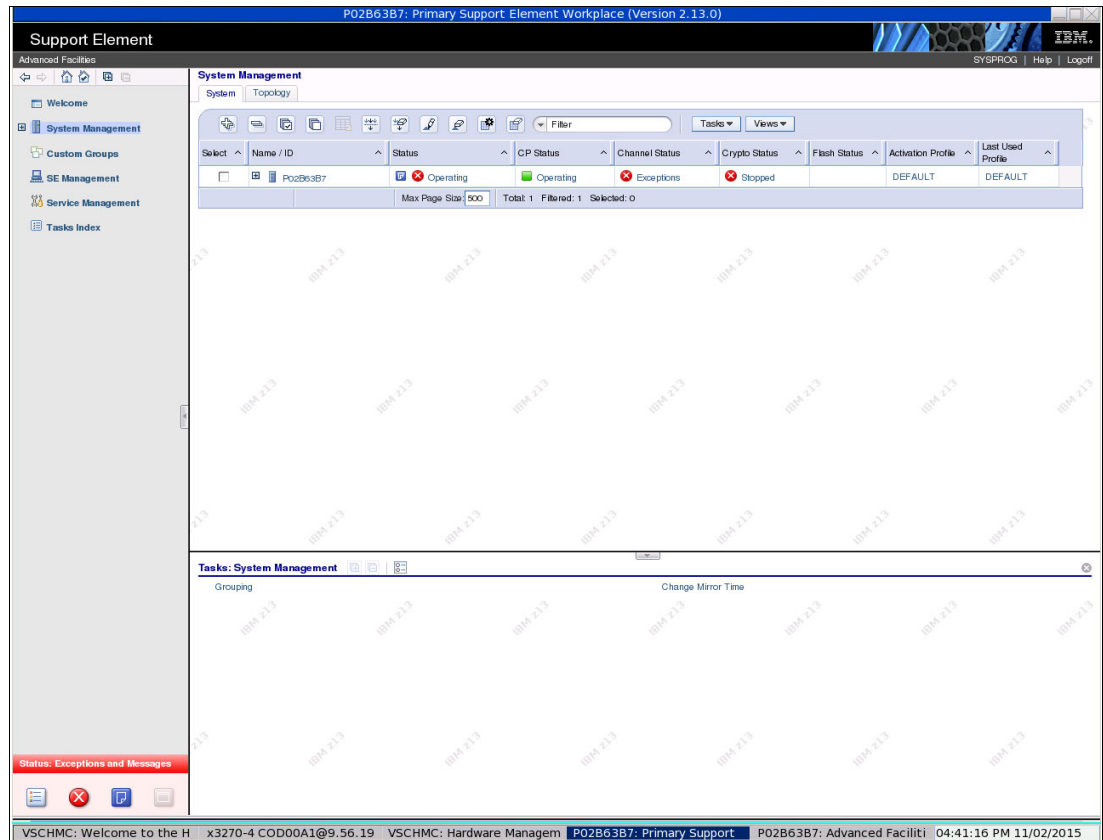

Figure 7-3 Single Object Operations SE panel
1. We select **P02B6B7** and in the Task area, we select **Single object operation**, as shown in Figure 7-3.